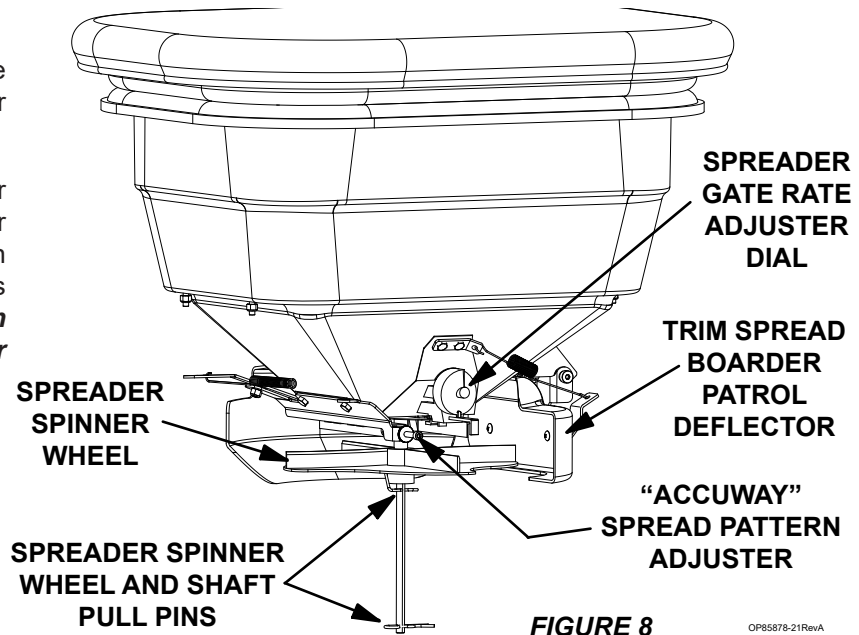

FIGURE 8
Drive the machine in all modes; fast, slow, turns, figure 8's and reverse backing. One thing you must get accustomed to is steering and stopping of the machine. Do this for at least 10 minutes before we move on to the other controls.
2. **SPREADER GATE (See Figure 8)** - The Spreader Gate opens allowing the material from the hopper to fall onto the spinner wheel for spreading. The gate is operated from Spreader Gate Open/Close Control lever on the right side of the operators control.
3. **SPREADER GATE RATE ADJUSTER DIAL (See Figure 8)** - The Spreader Gate Rate Adjuster Dial, is a round white plastic cam on the front of the spreader hopper. This cam sets the exact opening of the spreader gate. **The exact setting for the gate dial should only be set by licensed persons.**
**PATTERN ADJUSTER (See Figure 8)** - The Spread Pattern Adjuster moves the position of a black plastic wedge that is under the hopper gate opening. When the gate is opened, the wedge controls where the material lands on the spinner wheel. This affects how fast the material exits the spinner wheel and changes the throw of the material. The wedge can be adjusted to throw more material to the right, more to the left, or an equal right to left pattern.
**5. SPINNER SPREADER WHEEL (See Figure 8 and 9)** - The Spinner Wheel broadcasts the material from the hopper. The speed of the spinner wheel is controlled by the Spinner Speed Control.
**9. SPREAD TRIM BORDER PATROL (See Figure 8 and 10)** - The Spread Trim Border Patrol deflector is on the left side of the hopper and is operated by a lever on the left side of the operators panel. The Border Patrol deflector is operated by pulling the lever back for trim (ON) and pushing forward (OFF) for full width application.